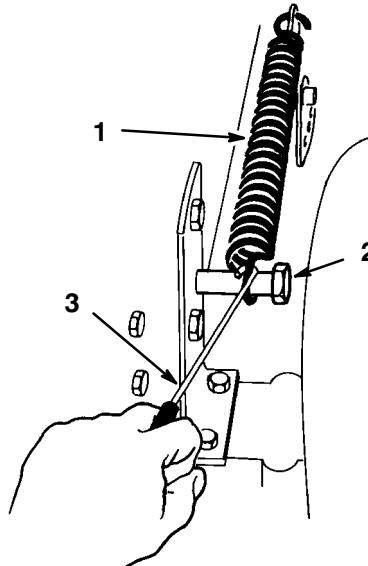

Figure 39
4. Remove the height-of-cut lift assist spring from the retaining bolt (Fig. 39), using the spring tool provided with the machine. The spring is between the frame and the right rear wheel.
14. Move the height-of-cut lever (deck lift) into the "D" notch. Hook lift assist spring onto retaining bolt for storage (Fig. 39).